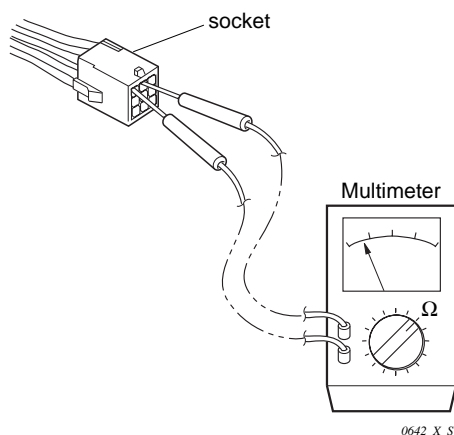

Fig. 46
(2) Checking the Protective Devices
- Then check continuity among plug's (and/or socket's) terminal as in **Fig. 46**.